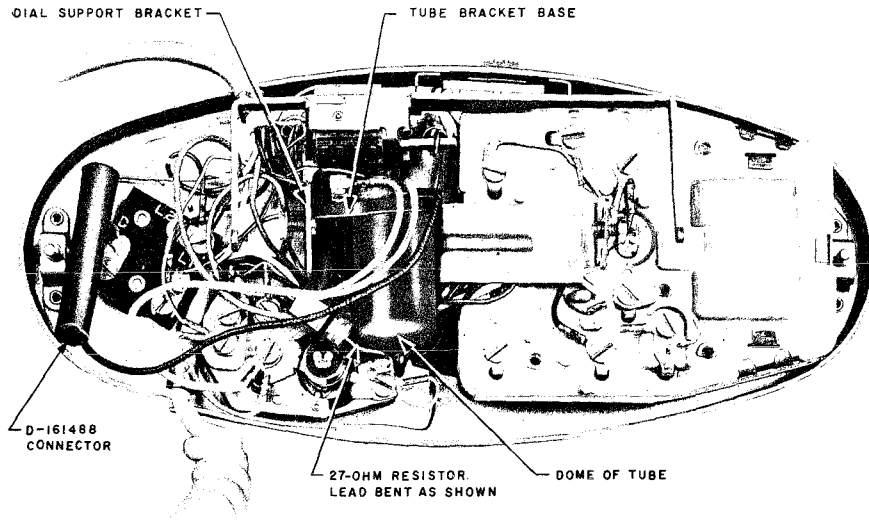

Fig.15 — Location of Cold-Cathode Tube in
6. Place the tube in space below dial with dome of tube toward night-light socket and base of plastic tube bracket against dial support bracket (see Fig. 15).